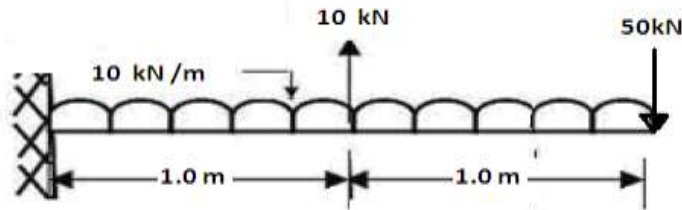

Fig.2
- (b) Draw S.F and B.M for figure 2. **07**